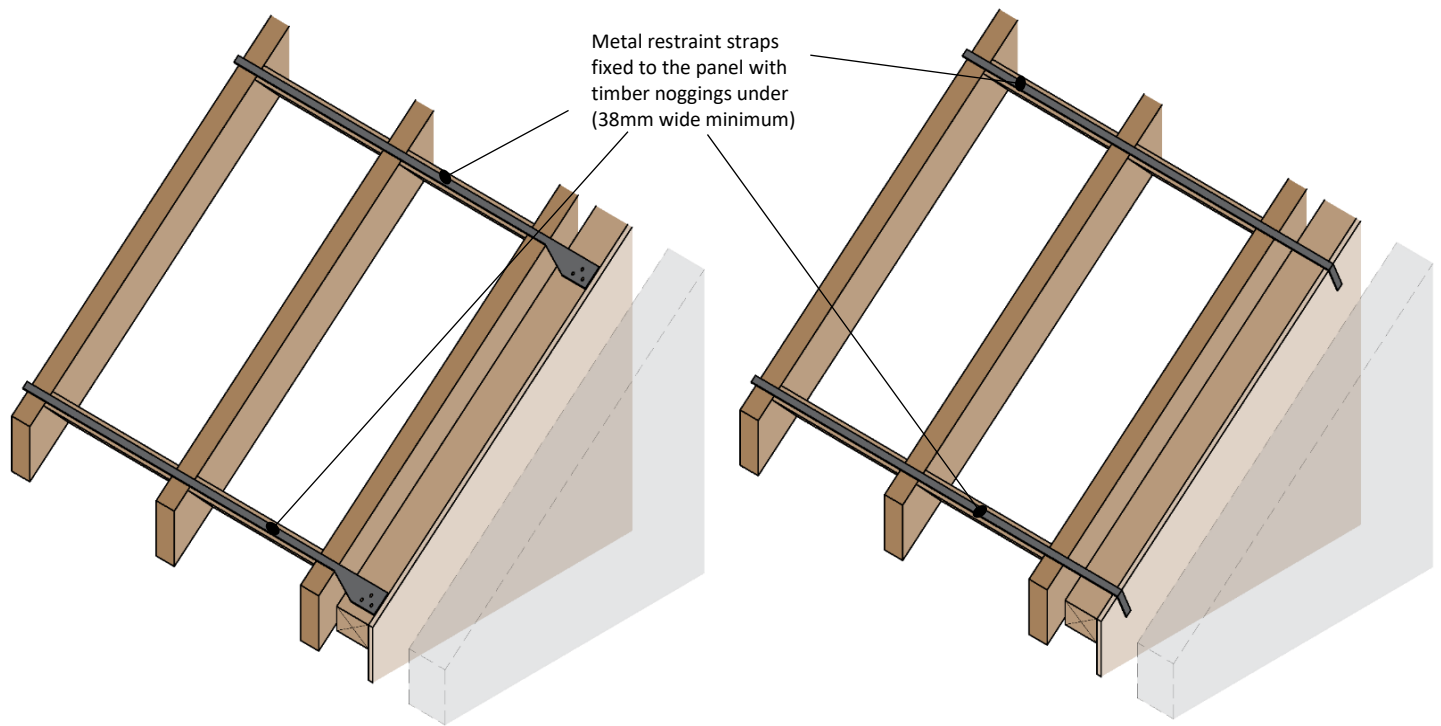

Figure 2 Metal restraint straps fixed to the panel and to noggings
Spandrel panels require lateral restraint at rafter level and along the base of the panel (see figures 2 and 3). Lateral restraint could be provided by:
- Metal restraint straps fixed to the panel and to noggings, or timber bracing fixed across the trusses (see figure 2).